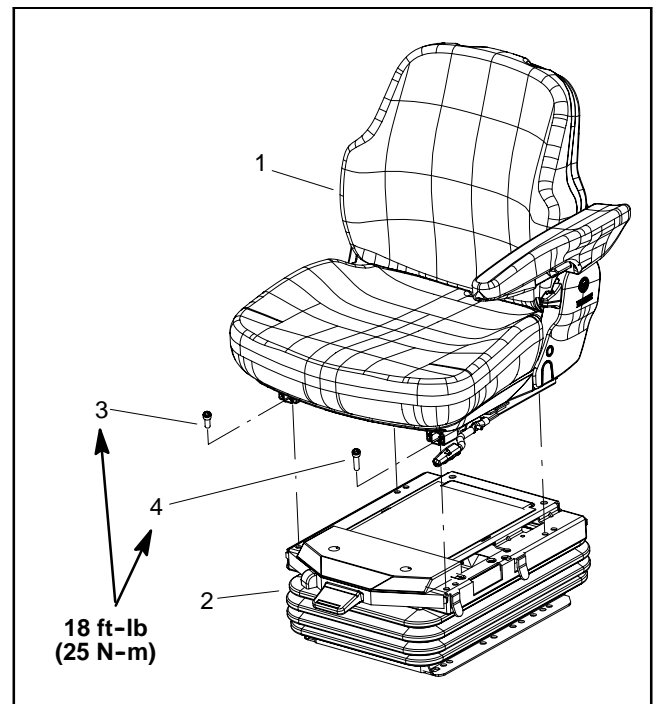

Figure 9
8. Remove four (4) torx head screws that secure seat to seat suspension (Fig. 9). Note that the screw near the seat adjustment handle is longer than the other three (3) screws.
2. Secure seat to seat suspension with four (4) torx head screws (Fig. 9). Make sure that longer screw is positioned near the seat adjustment handle. Torque screws **18 ft-lb (25 N-m)**.